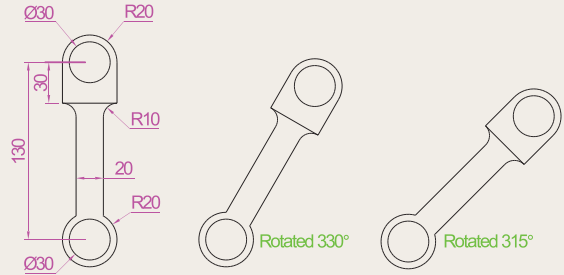

Fig. 5.53 Exercise 7
- Construct the drawing shown in Fig. 5.53 and make two copies using **Copy**. With **Rotate** rotated each of the copies to the angles as shown.